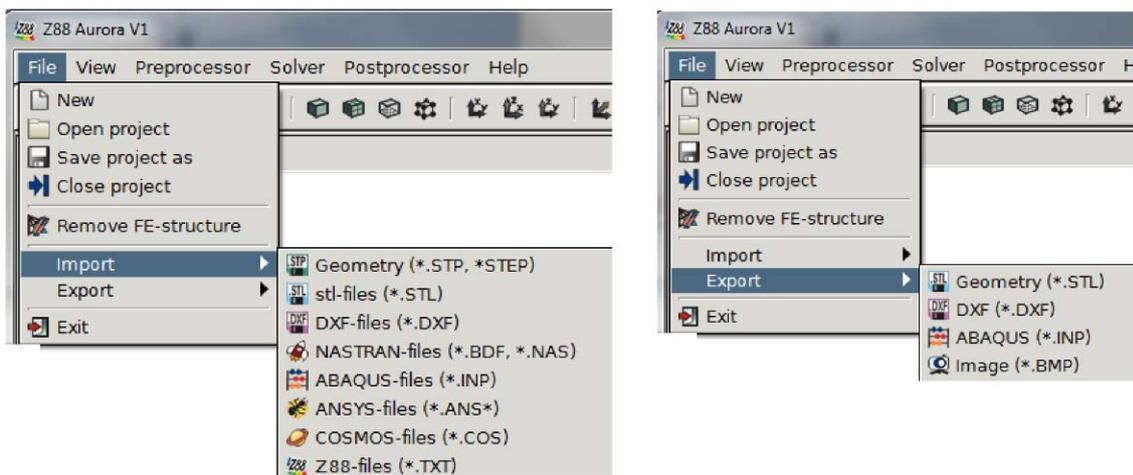

Figure 13: Import and export in the text menu
1. Via the text menu (Figure 13)